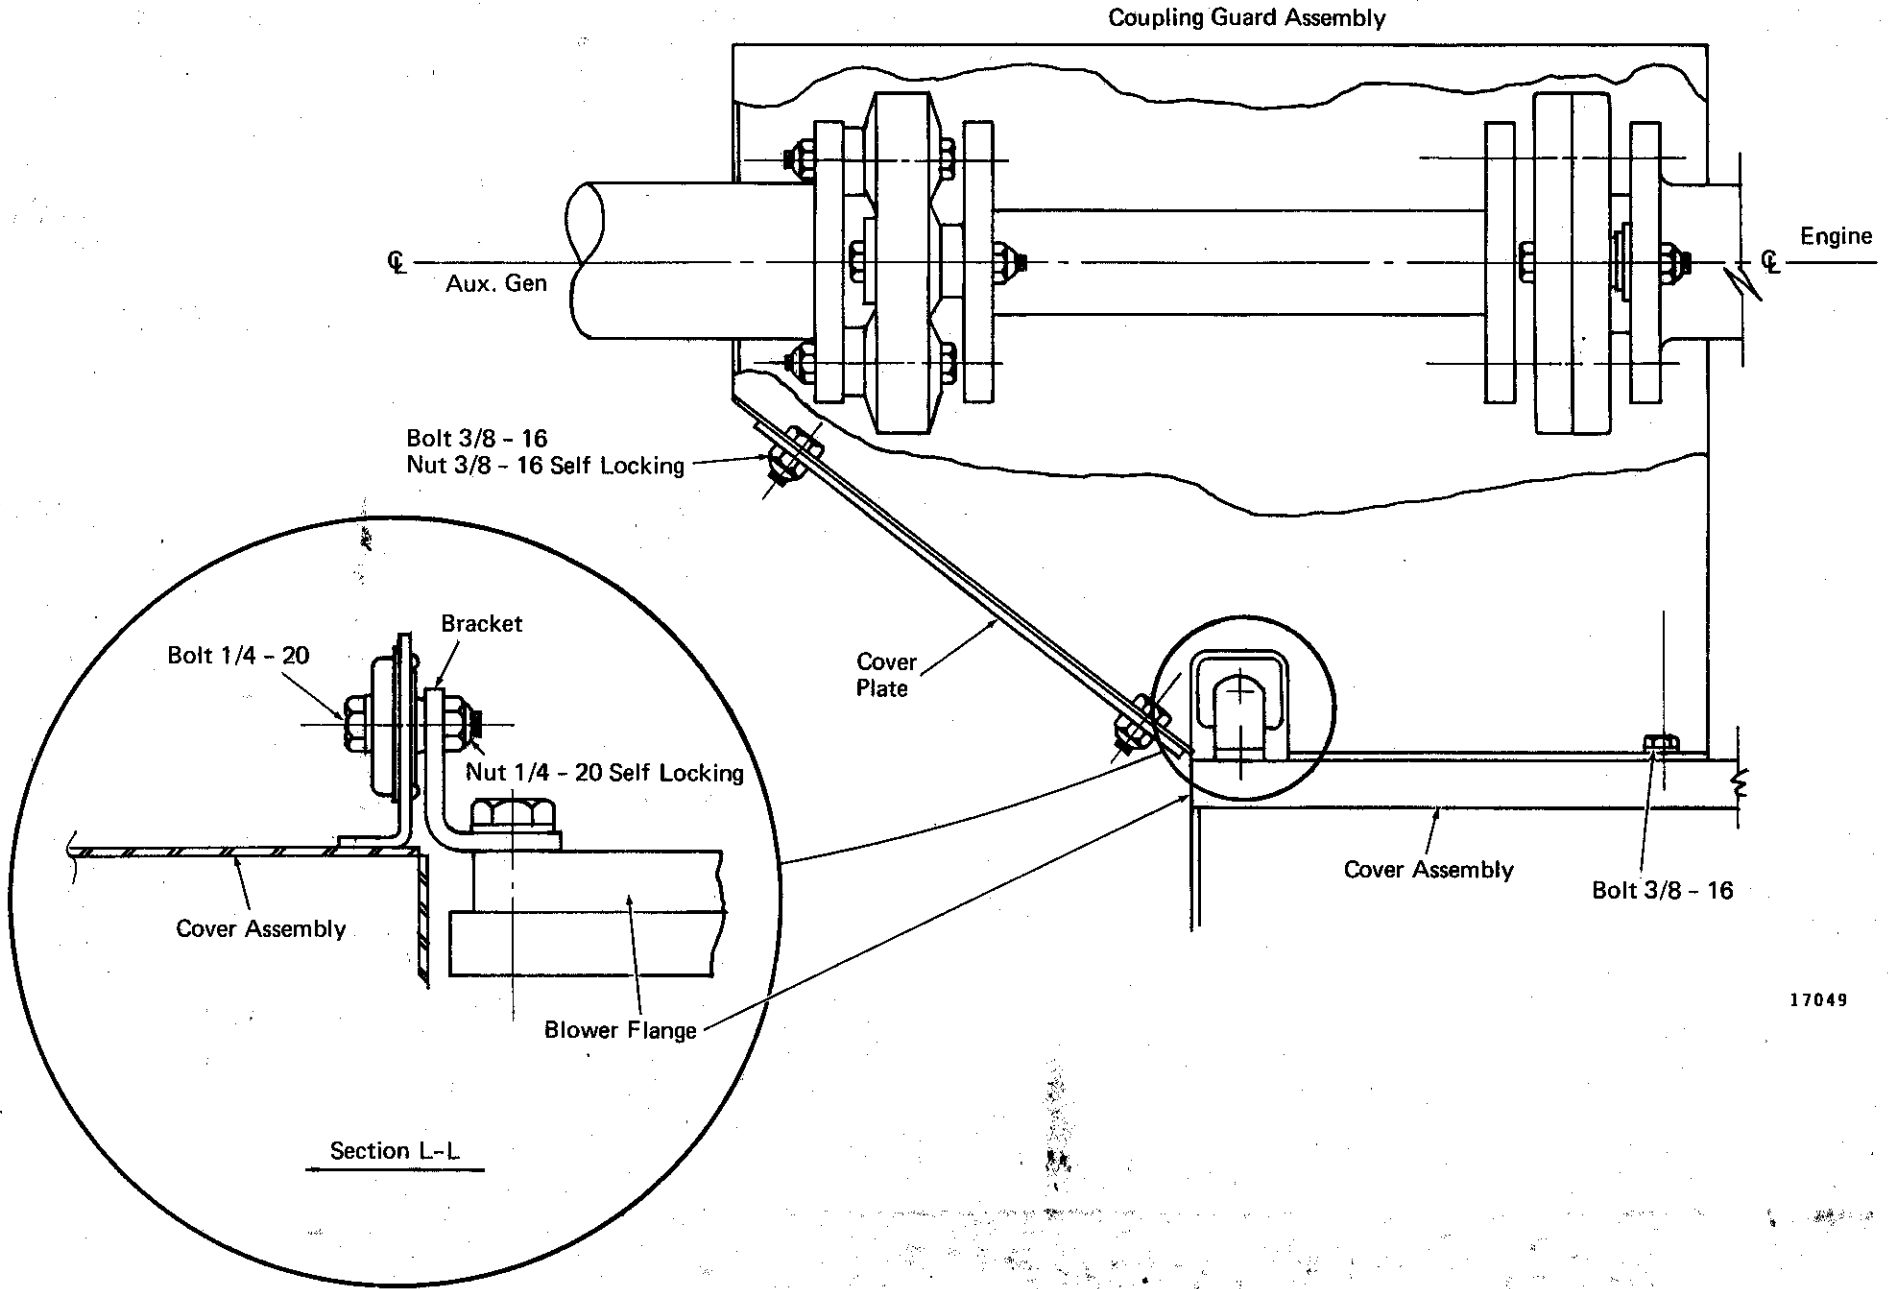

Fig. 1 - Application Of Shaft Guard
DRAWINGS: 8449443 Rev. A – Power Plant Equipped Mounting Assembly and Fig. 1.
2. Apply new material per reference drawing 8449443, Rev. A and Fig. 1.